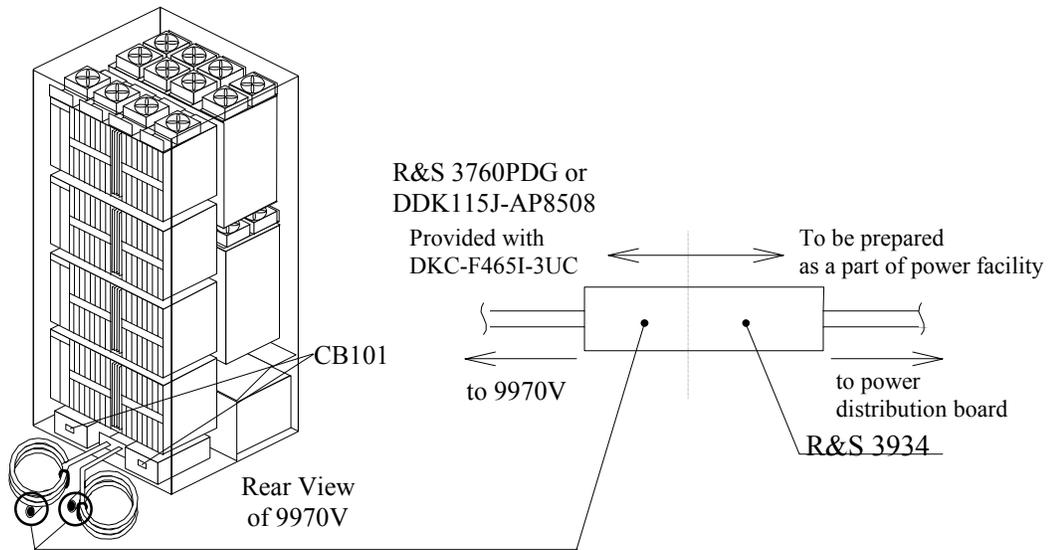

Figure 5.13 Power Plugs for Three-Phase 9970V Subsystem (USA)
- Figure 5.13 illustrates the power plugs for a three-phase 9970V subsystem (USA).